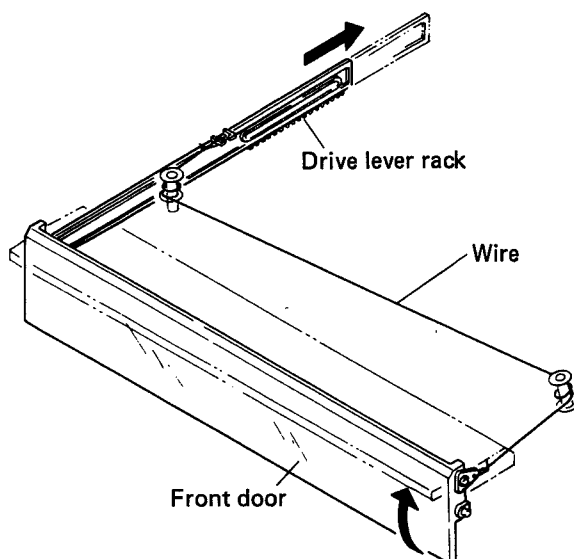

Fig. 2-3 Door operation 2
5. The left hand side of the front door is lifted directly by the drive lever rack, and the right hand side via a wire connection (see Fig. 2-3).